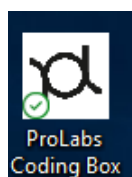

Figure 4 – File Icon
- 6) Locate the “ProLabs Coding Box” shortcut (figure 4) on your desktop (or location where it was saved) and double click.